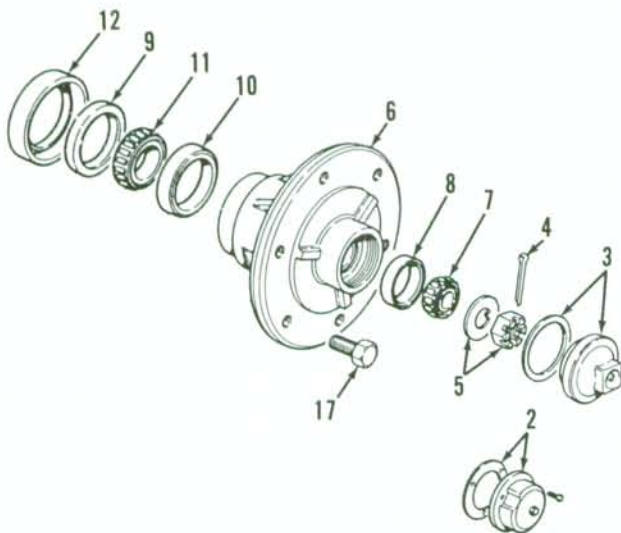

Fig. 4—Exploded view of wheel hub typical of two-wheel-drive models.
1. WHEELS AND BEARINGS. To remove front wheel hub and bearings, raise and support the front axle extension, then unbolt and remove the tire and wheel assembly. Remove cap (2 or 3—Fig. 4), cotter pin (4), castellated nut (5), washer and outer bearing cone (7). Slide the hub assembly from spindle axle shaft. Remove dust shield (12), seal (9) and inner bearing cone (11). Drive bearing cups (8 and 10) from hub if renewal is required. Pack wheel bearings liberally with a multi-purpose lithium based grease. Reassemble by reversing disassembly procedure. Tighten castellated nut (5) to a torque of 80 N·m (60 ft.-lbs.), then back nut off to the nearest hole and install cotter pin (4). Be sure to install cap (2 or 3) securely.